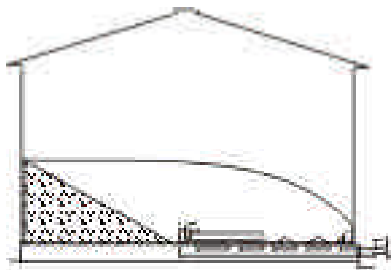

Figure 15
- D. The Commercial Bin Sweep Augers are made with the sweep auger and back shield in two or more sections. One of the sections can be used first alone by attaching the section to the drive unit and mounting the reduction wheel on that section. Then, after the center portion of the bin has been emptied, another section of sweep auger and back shield may be added and the unloading process continued. (See Fig. 15, 16, and 17) If the sweep is equipped with a truss, be sure to tie-off extra cable length so it does not become entangled in the sweep auger. Always shut down the unloading equipment and lock out power before entering the bin.